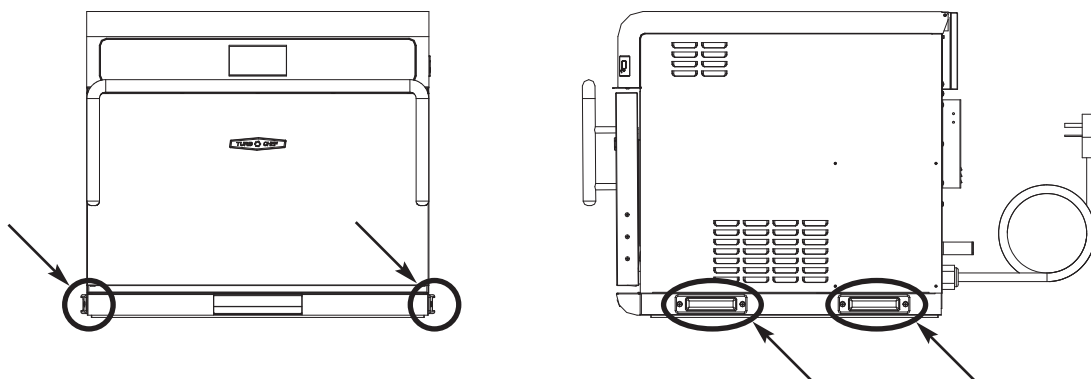

Figure 2: Hand Grip Locations
2. Place hands into grips (see Figure 2) and lift.